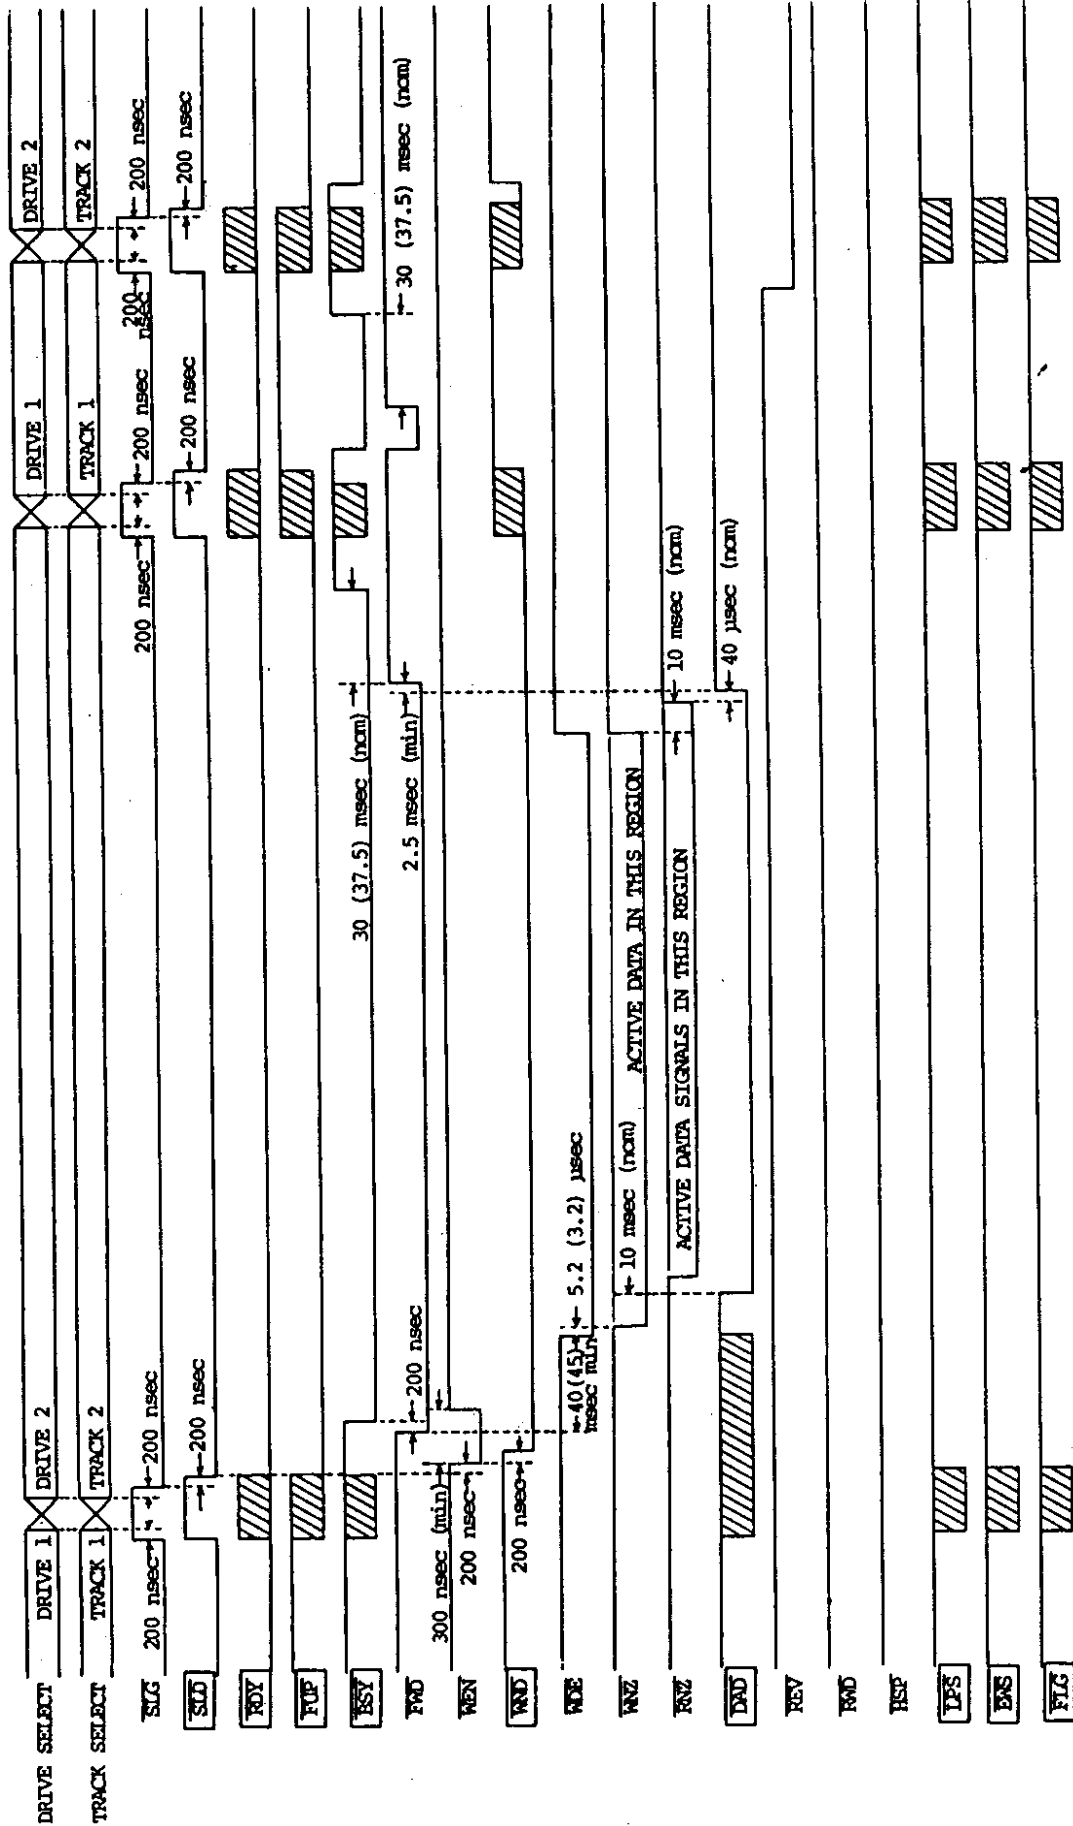

Figure 5.1, Write Timing Diagram
5.3.1 WRITE OPERATIONS. The timing diagram (figure 5.1) for the write operation also includes drive deselection and reselection. Note the following: